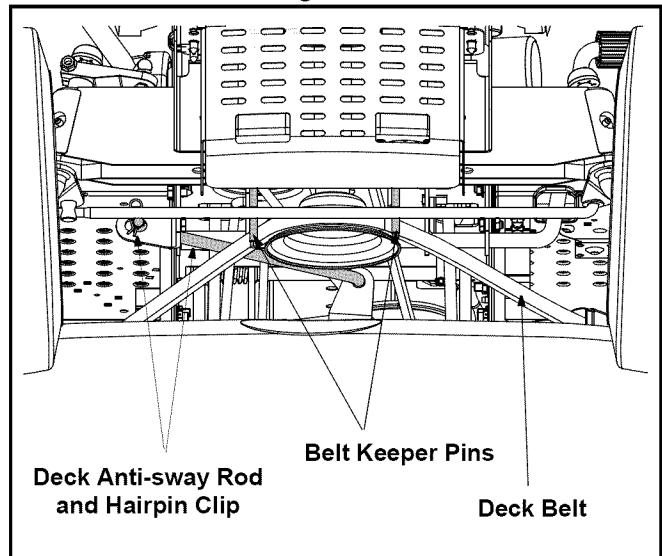
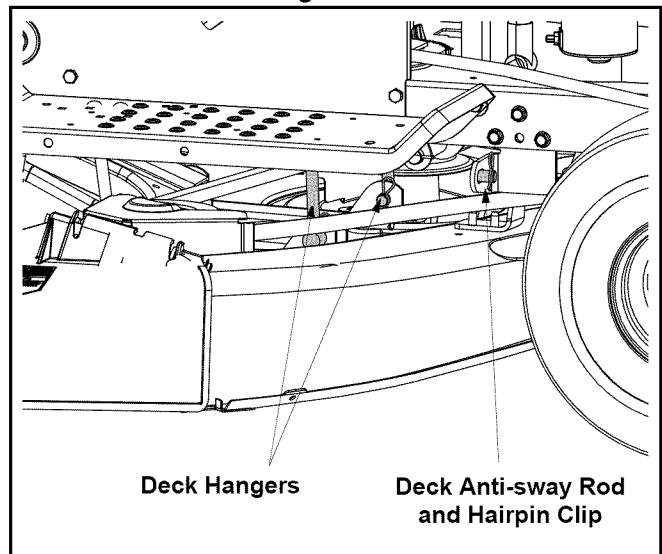

Figure 25
Figure 26
- Locate the two belt keeper pins, found on either side of the engine pulley, and use a 1/4-inch socket wrench to remove them. See Figure 25.
- Locate the deck anti-sway rod and adjustable deck links found near the front of the cutting deck. See Figure 25 & Figure 26.
- Locate the two belt keeper pins, found on either side of the engine pulley, and use a 1/4-inch socket wrench to remove them from the lower frame. Refer to Figure 25.